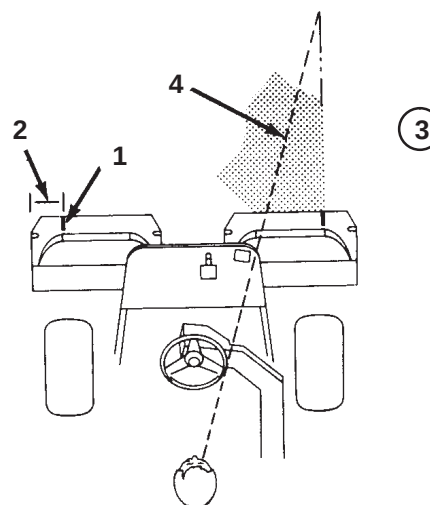

Figure 26
2. Either place a strip of white tape or paint a line onto each basket paralleling the outer edge of each basket (Fig. 26).
3. Overlap a minimal amount with the previous cut on return passes. To assist in maintaining a straight line across the green and keep the machine an equal distance from the edge of the previous cut, establish an imaginary sight line approximately 6 to 10 ft. (1.8 to 3 m) ahead of the machine to the edge of the uncut portion of the green (Fig. 26 and 27). Some find it useful to include the outer edge of the steering wheel as part of the sight line; i.e. keep the steering wheel edge aligned with a point that is always kept the same distance away from the front of the machine (Fig. 26 and 27).